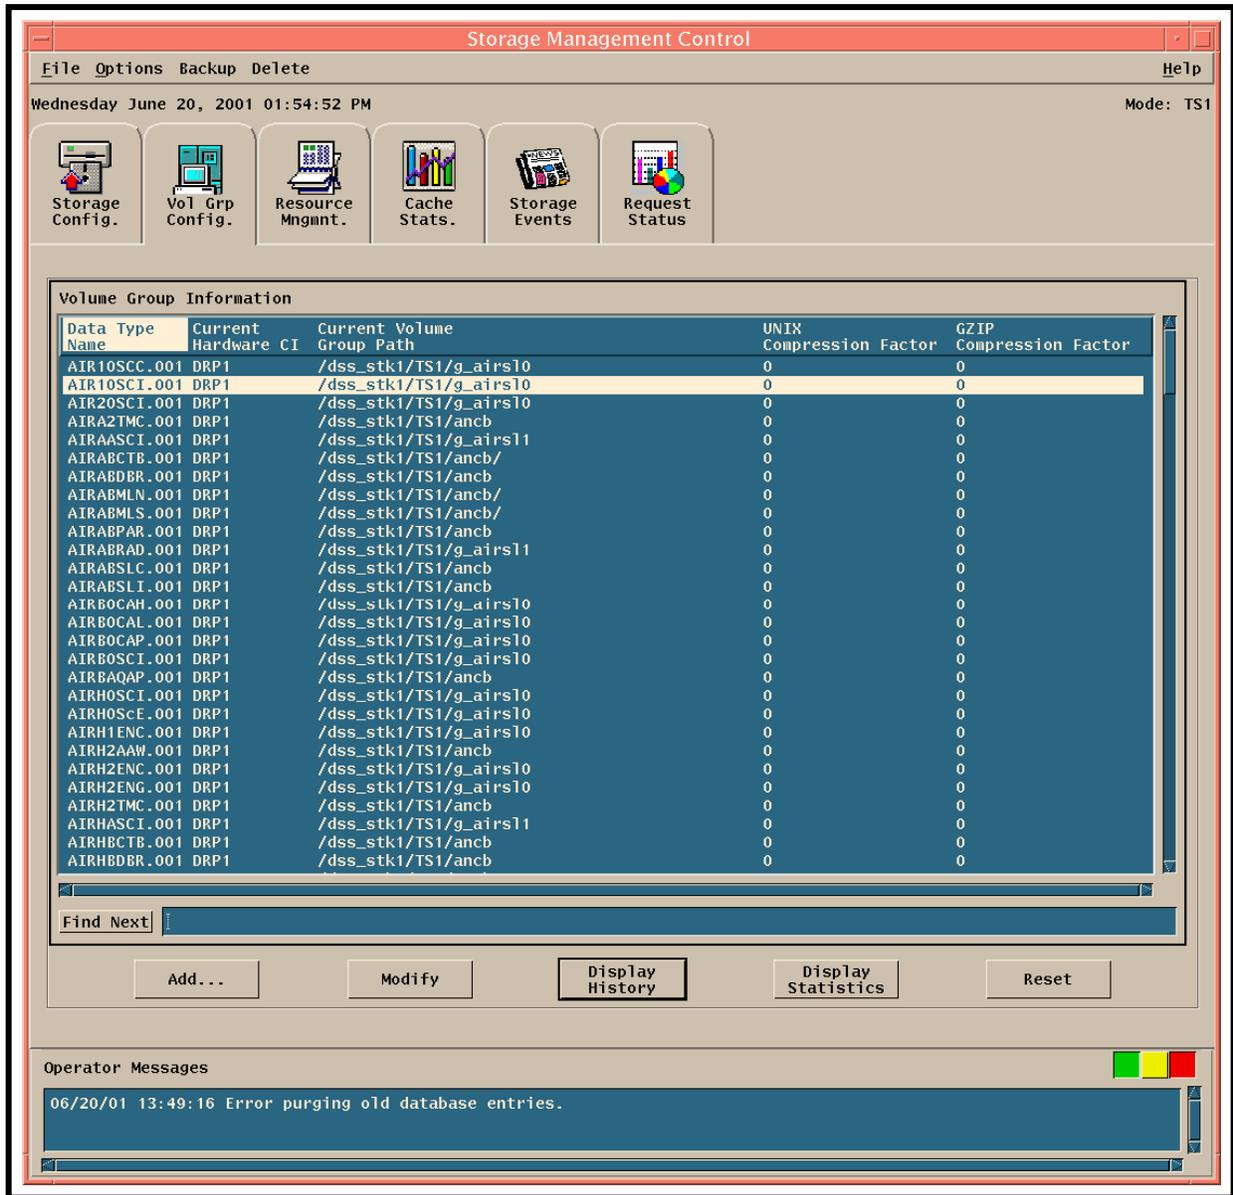

Figure 16. Storage Management GUI
- This brings up the Storage Management Control GUI as shown in Figure 16.
- This brings up the "Volume Group Information" pane, which is what Figure 16 actually illustrates.
- This brings up the Storage Management Control GUI (Figure 16).